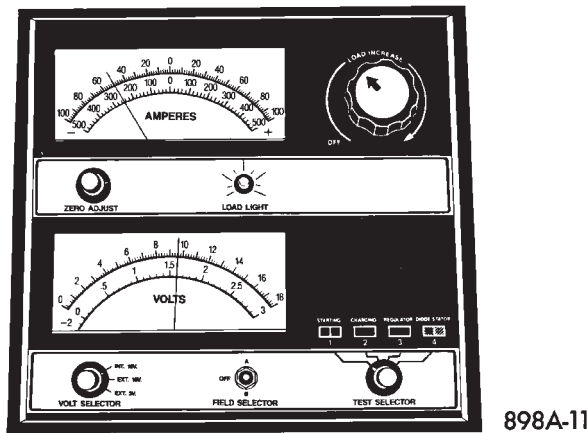

Fig. 8 Load 50% Cold Crank Rating
(5) Rotate the load control knob on the tester to maintain 50% (260) of the battery cold crank rating for a minimum 15 seconds (Fig. 8).